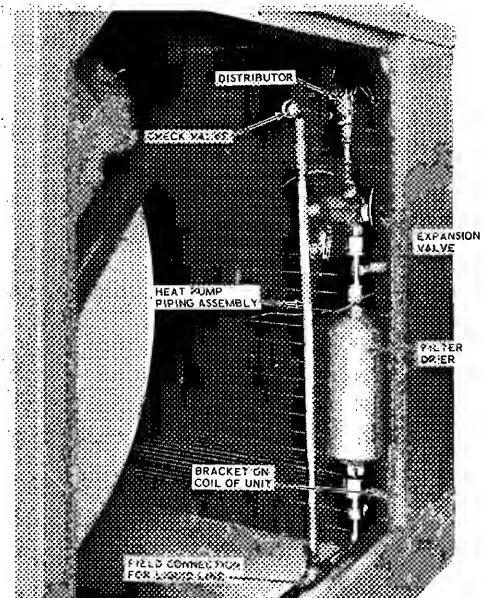

Fig. 5 — 40BA009 with Heat Pump Conversion Piping Installed
- Figure 5 shows the heat pump conversion piping filter-drier and expansion valve installed on the 40BA009 unit. To install, cut off the end of the side outlet tube of the distributor, being careful about leaving chips or burrs inside the tube. Position the check valve and tube assembly. Slide the check valve over the side outlet tube and "sweat" the joint. Use the expansion valve and filter-drier to locate the lower end of the tube assembly.